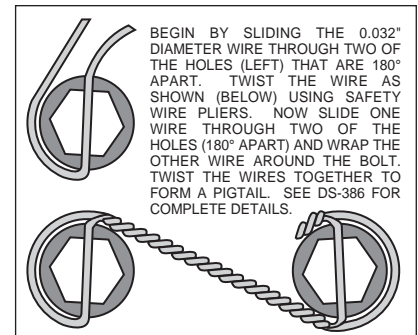

Figure 4. Safety Wire Diagram
- Attach rotor adapter (7) to rotor (8) using six bolts (9). Torque bolts (9) to 180 in-lb. Safety wire bolts (9) using standard 0.032 inch diameter stainless steel safety wire as shown in Figure 4. Please refer to Wilwood's data sheet DS-386 (available at www.wilwood.com/pdf/ds386.pdf) for complete safety wire installation instructions. **NOTE:** The flat side of the rotor (8) lugs face toward the rotor adapter (7) with the dished side of the rotor adapter (7) facing away from the rotor (8).
- Mount the adapter/rotor assembly (7 and 8) to the hub (4) using six bolts (10). Torque bolts (10) to 22 ft-lb. Safety wire bolts (10).
- Pack the small outer bearing cone (11) with high temperature disc brake bearing grease. Lightly coat the spindle bearing surfaces with bearing grease. Slide the hub/rotor assembly (4 and 8) with outer bearing cone (11) onto the spindle. Secure using spindle washer (12), existing adjusting nut and nut locking device.